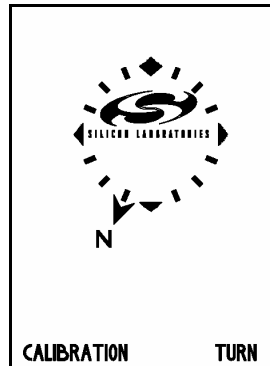

Figure 7. LCD Calibration Mode Display
1. Hold the compass in a perfectly horizontal position. The symbols "CALIBRATION" and "TURN" will be displayed on the LCD as shown in Figure 7.